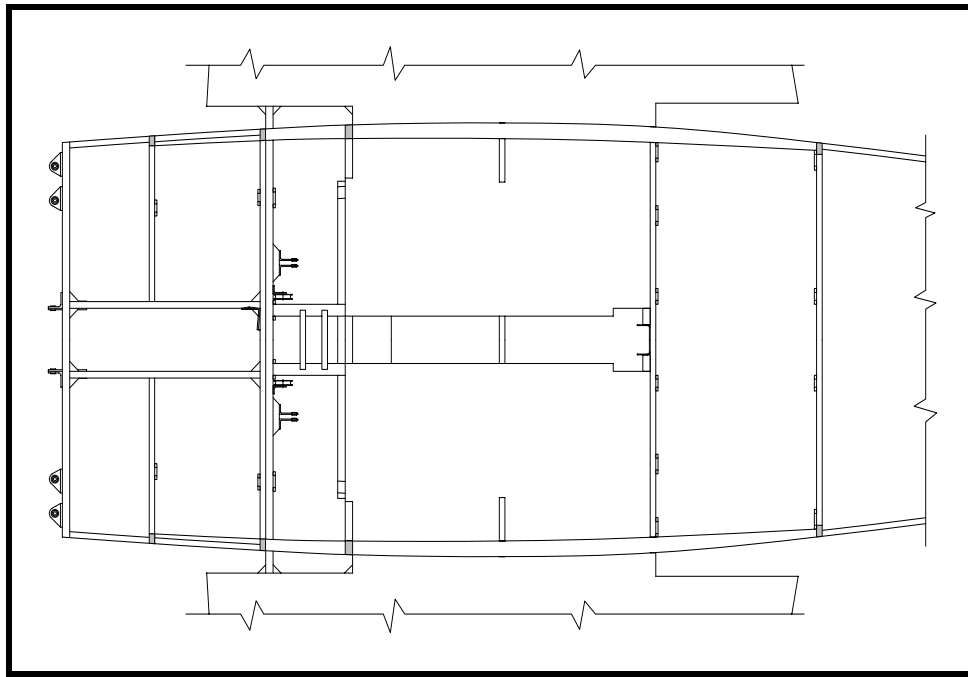
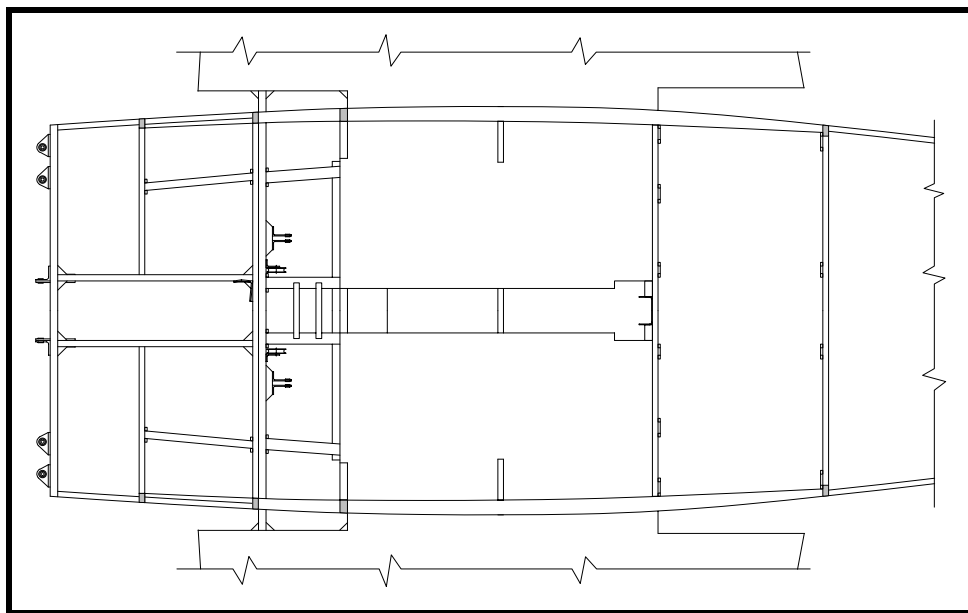
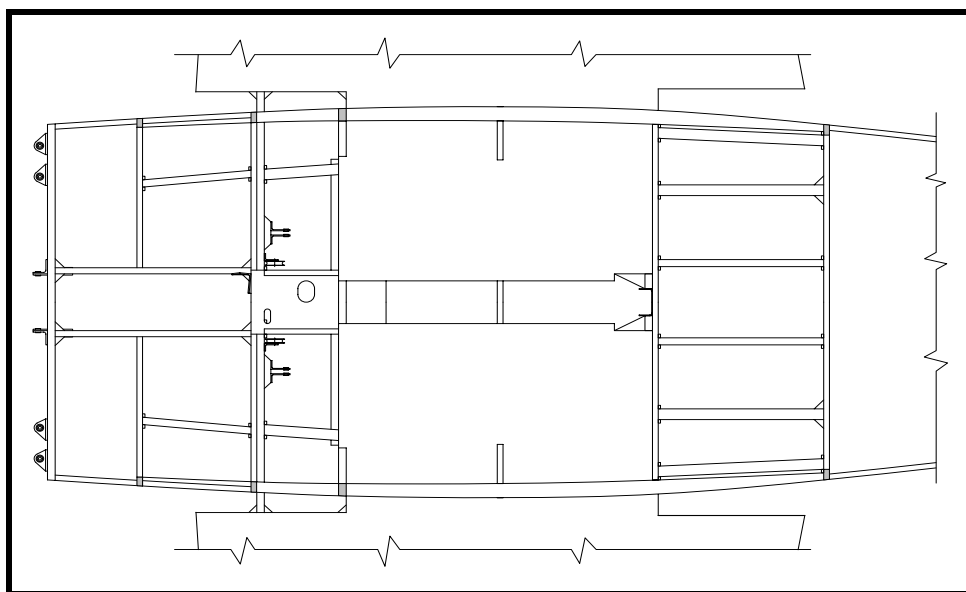

Figure 11
Figure 13
Figure 18
- Assemble and install the center flooring supports between Sta. 3 and 4 as shown in Drawing No. 315. See Figure 11. The strip on the forward face of Frame 4 should already be notched to receive the flooring supports (see Chapter 23, Figure 13). At the forward end, the 30x15 floor supports are supported by saddle gussets (see Chapter 23, Figure 18). The plans show the two 15x15 members (these are supports for the trim tab control) notched into the 30x15 fore-and-aft members. It really doesn't matter if these are notched or not since the plywood flooring will tie it all together. If you wish, you may notch the 30x15 pieces just enough so that the 15x15 are firmly located in place while gluing.
- ❑ Install the flooring supports between Sta. 2 and 3. See Figure 13.
- ❑ Cut, fit and install the center floor between Sta. 3 and 4. See Figure 18. The greater width at the front is to accommodate the foot of the instrument panel pedestal, which you can see on Drawing No. 831-1. The two holes are for wiring and plumbing. The larger hole on the right side will take most of the wiring, but there will be a few things which will dive down in front of the control stick support. You don't need a big hole, say 25 wide and you can make its width to match the opening in the bottom of the instrument panel pedestal. You will have ample opportunities to varnish the bottom of the floor board later, so just glue the plywood in place.